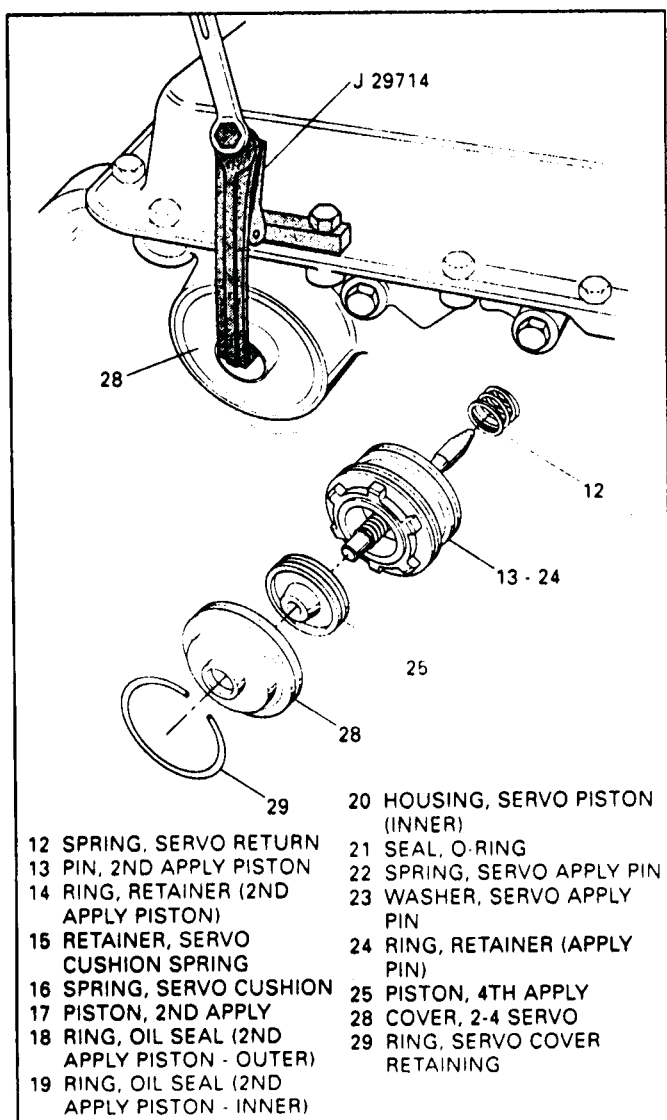

Figure 172
4. Install the servo return spring onto servo assembly, as shown in Figure 172, and install 2-4 servo into the case bore.
5. Compress the servo cover using the tool shown in Figure 172, install the snap ring.